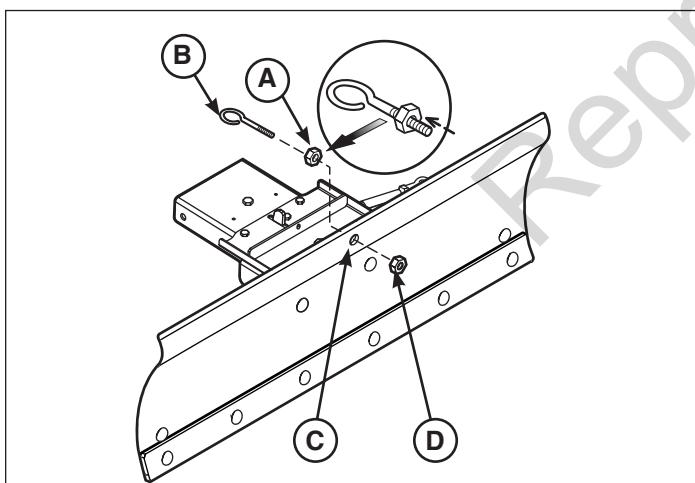

Figure 8
2. Secure the hex nut (**A**, Figure 8) onto long eyebolt (**B**). Tighten the eyebolt locknut toward top of threads. See Figure 8 inset.